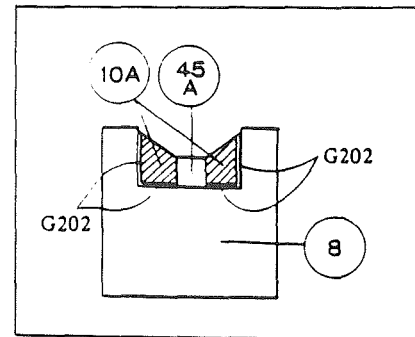

Fig. 40
- 2) If in Disassembly Procedure 7 (P. 22) the lefthand race (8) on the fiducial side has been dismantled for an unavoidable reason, use the right one as fiducial (Assuming that both the right and left races have not been dismantled).
- i) Fix (10A) x4 to the guide rails (10A) attaching surfaces of (8), using lubricant G202. (Fig. 40).
- ii) Attach (10B) x4 to both the guide rail (10B) attaching surfaces of roller race (male) (7), using lubricant G202. (Fig. 40).